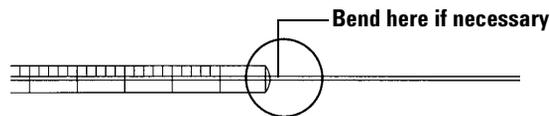

Figure 72 Inspecting the syringe
- 1 Roll the syringe on the edge of a clean flat surface. If the tip of the needle moves in a circle, straighten the shaft by bending it slightly near where it connects to the syringe barrel and check it again (Figure 72).